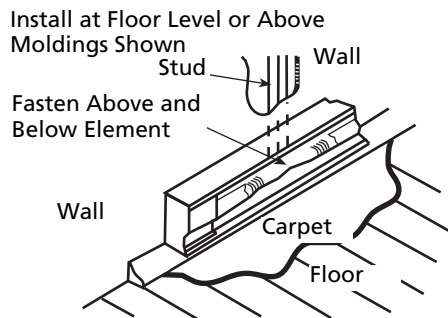

Figure 3
1. Remove wiring compartment cover at end of heater where power supply cable is to enter. Determine desired mounting location (Figure 3), position heater to wall as intended and mark wall (or floor) at location where power supply is to enter heater.